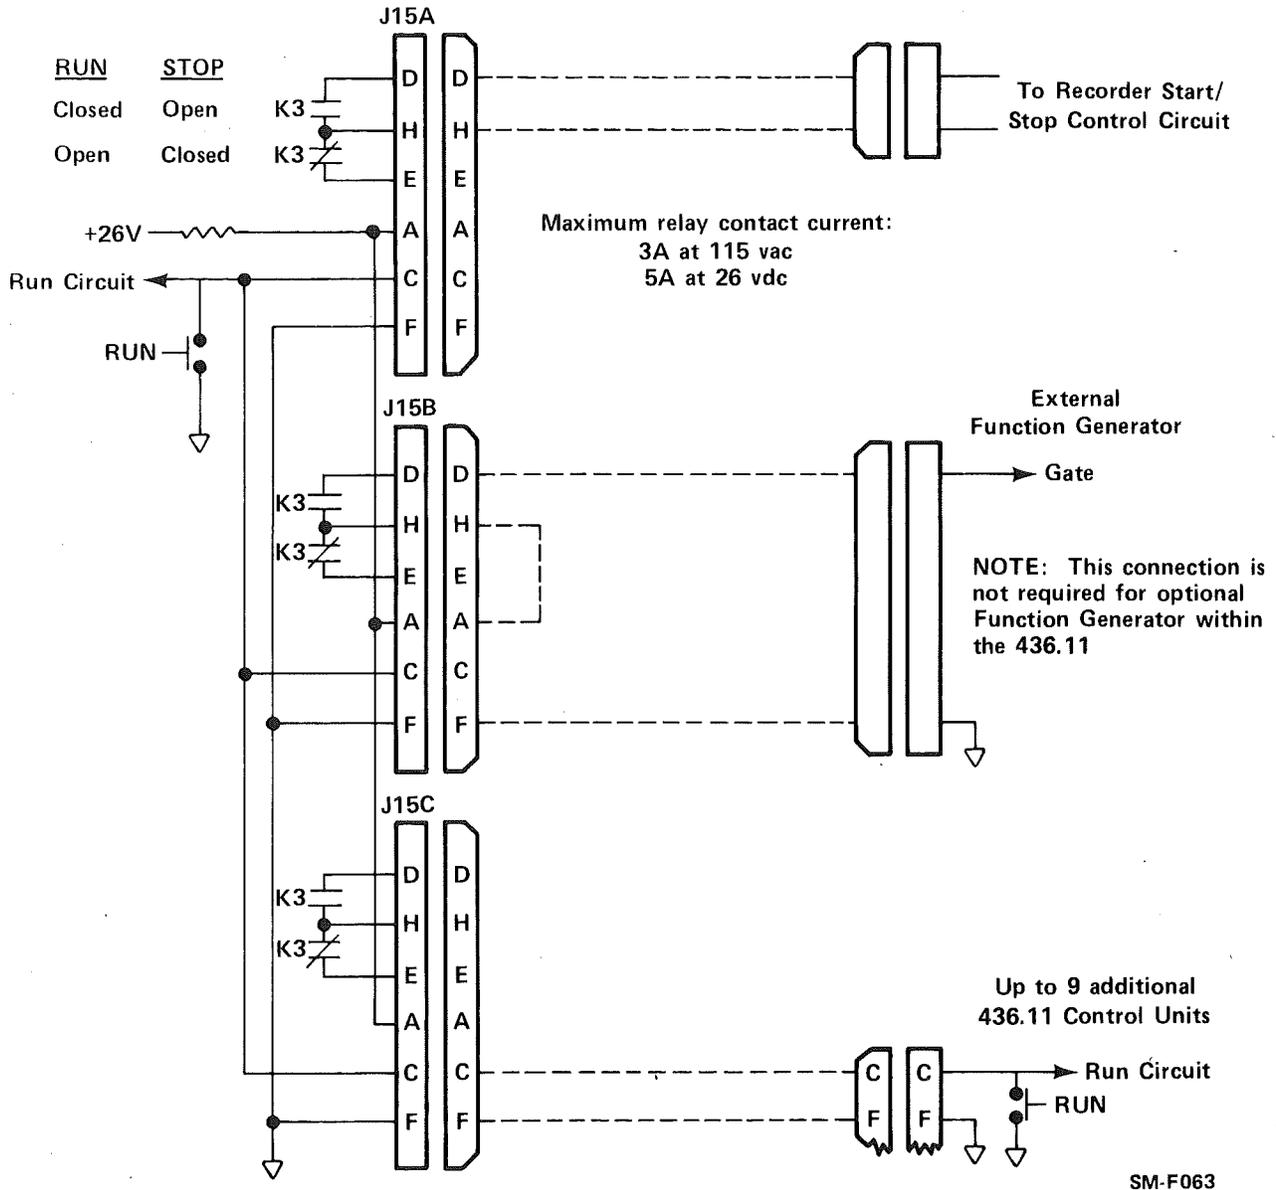

Figure 4-11. Recommended Run Contact Cable (Composite)
Jacks J15A through J15C on the rear panel have connections for three separate functions, all associated with the RUN/STOP conditions of the 436.11. Figure 4-11 shows cables containing the three typical uses of the J15 jacks described below.
1. Contacts for automatically starting and stopping external devices, such as recorders, with the program (figure 4-11, J15A).
2. A positive voltage and contacts for automatically gating an external function generator on RUN and stopping it on STOP (Figure 4-11, J15B). Note: This function is not used if either the program soft run/stop option or the internal function generator option is supplied with the 436.11.
3. Contacts for interconnecting the RUN buttons on up to ten 436.11 Control Units so that any control unit can start (but not stop) the test run (figure 4-11, J15C).
Figure 4-11 shows a cable containing the three typical uses of the J15 jacks described above.